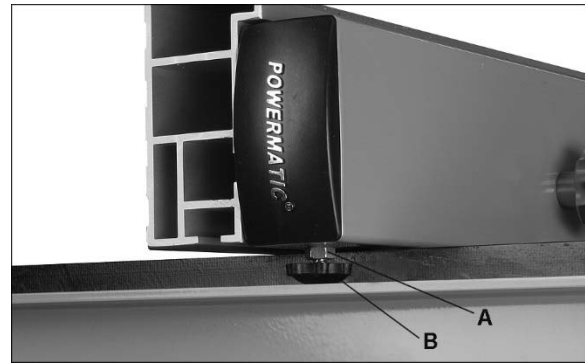

Figure 11: fence rear adjustment
- And/or....Adjust back end of fence by loosening hex nut (A, Figure 11) with 10mm wrench, and rotating sliding pad (B) in or out. When fence-to-table gap is equal, retighten hex nut (A) against fence body.